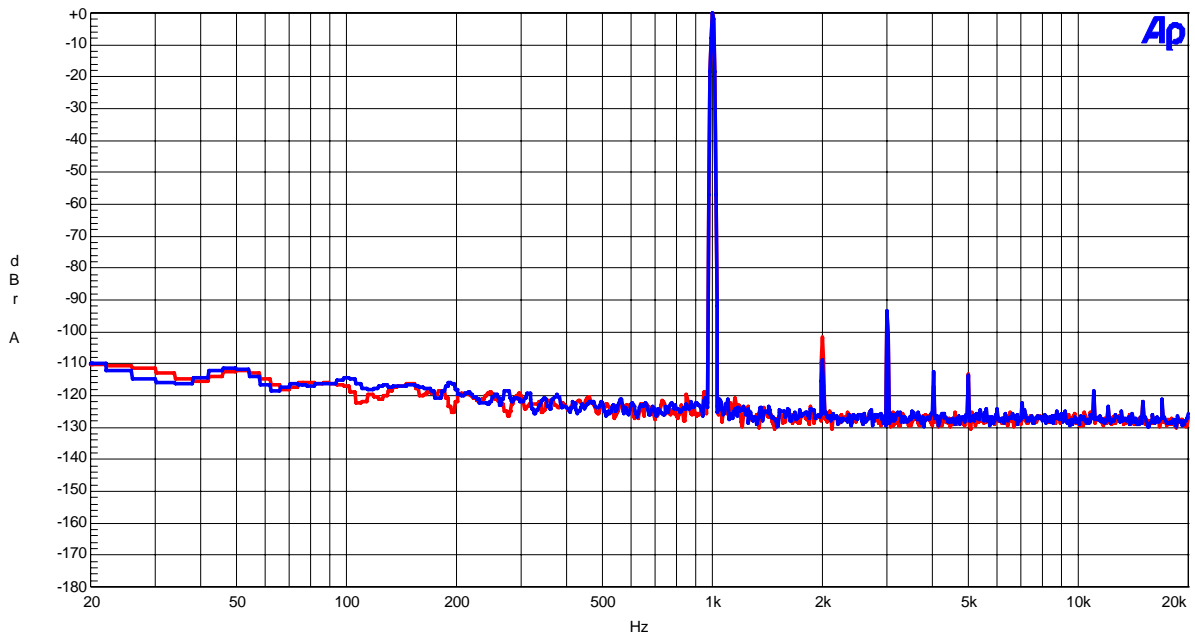

Figure 8. FFT(Input Frequency=1kHz, Input Level=0dBFS)
- Figure 8. FFT (Input Frequency =1kHz, Input Level =0dBFS)